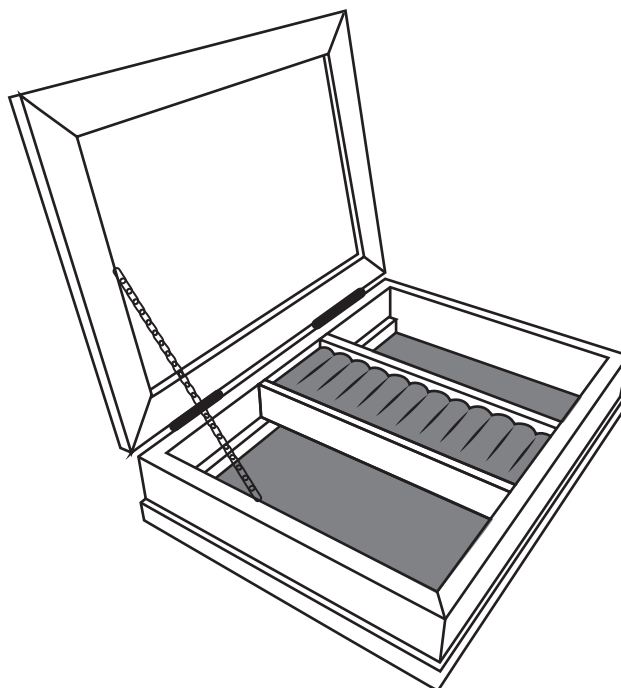

Figure 5
- 4 Figure 5 shows a drawing of a jewellery box made from mahogany.